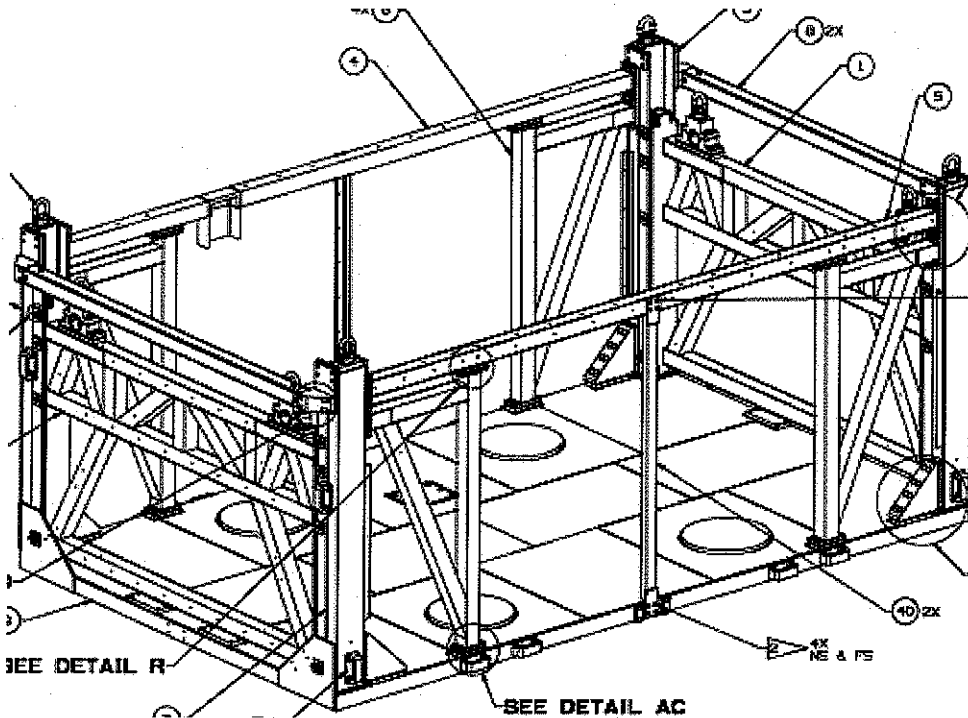

Figure 3
12. Remove two (2) Vertical Panel Bolt Assembly, SEG38117063-701. The Vertical Panel Bolt Assemblies are identified as item 40 in Figure 3. Store all fasteners, NAS1351N4LB12, item 75 and flat washers, NAS1149E0432R, item 80 resulting from the Vertical Panel Bolt Assembly removal in separate plastic bags. Mark on bag the assembly from which the fasteners and washers were removed.